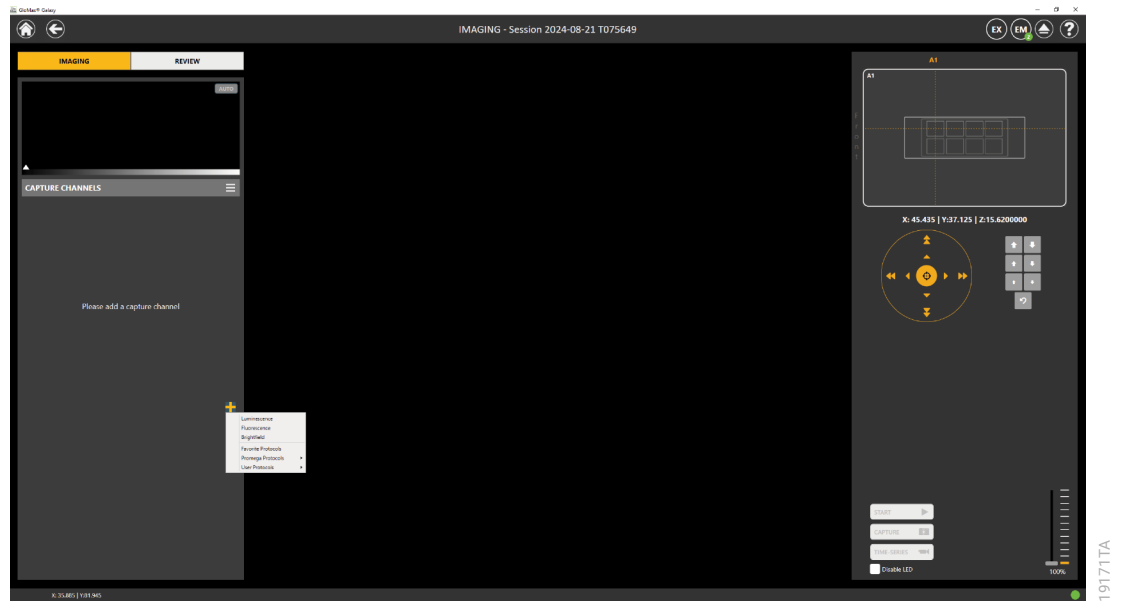
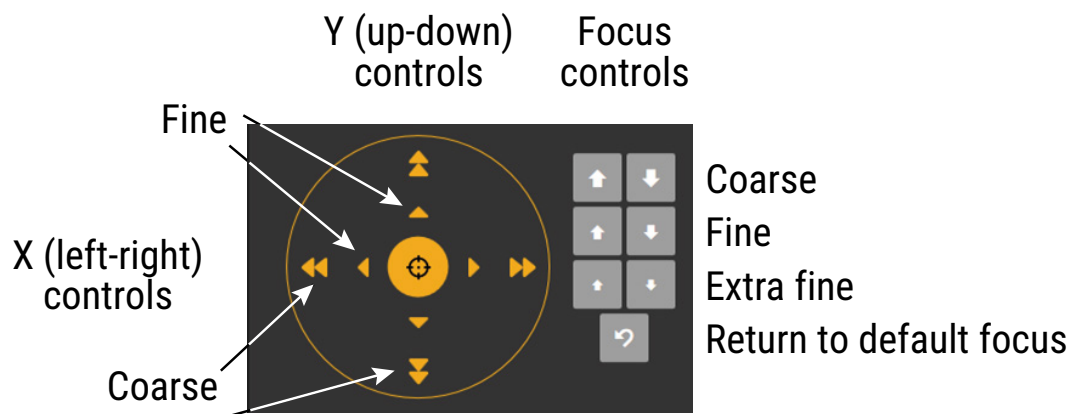

Figure 10. Adding a capture channel.
Figure 12. Navigation buttons.
6. Select the yellow + in the left panel of the screen to add a capture channel. A new Luminescence, Fluorescence or Brightfield channel may be created, or an existing protocol may be selected (Figure 10).
8. Focus using the coarse, fine and extra-fine up and down arrow buttons (hover over these buttons to see the keyboard shortcuts). Select the vessel diagram (upper right in Figure 10) or use navigation buttons (Figure 12) to move the XY-stage to change the field of view. The  button returns the objective to the default starting focal position for a new imaging session.
Capture Channels are added and configured on the 'Imaging' tab during an active Imaging Session by selecting the **+** in the capture channels list (Figure 10). Options include Luminescence, Fluorescence and Brightfield.